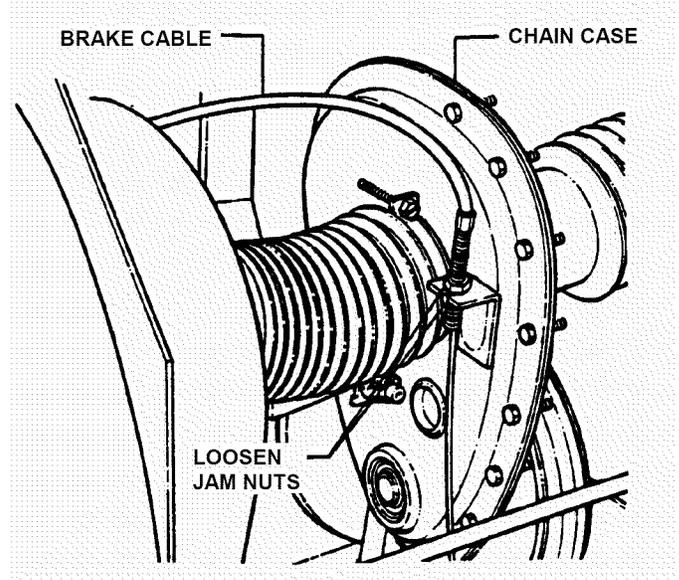

FIGURE 4.10
6. If measurement is not $3/4"$, loosen the two jam-nuts (shown in Figure 4.10) holding the clutch/brake cable to the chain case bracket.
5. Move transmission shift lever to the neutral (N) position.
6. Rotate clutch yoke (clutch yoke shown in Figure 4.10) out with your hand and work belt between drive disc and rubber driven disc.